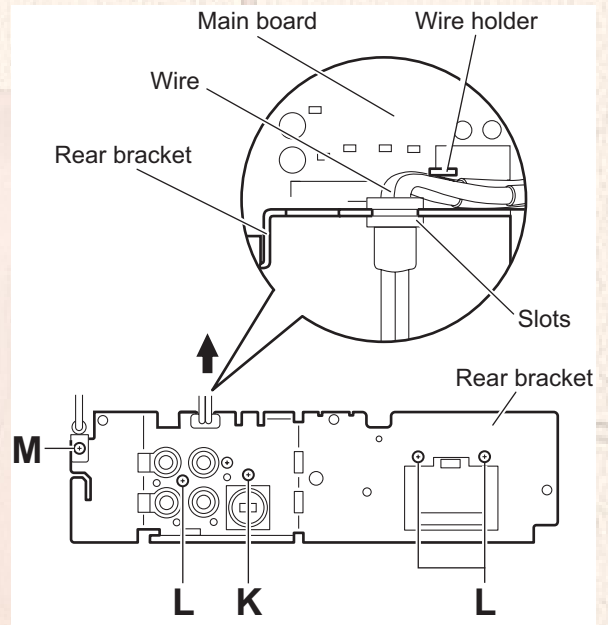

Fig.13
3.1.8 Removing the rear bracket (See Fig.13)